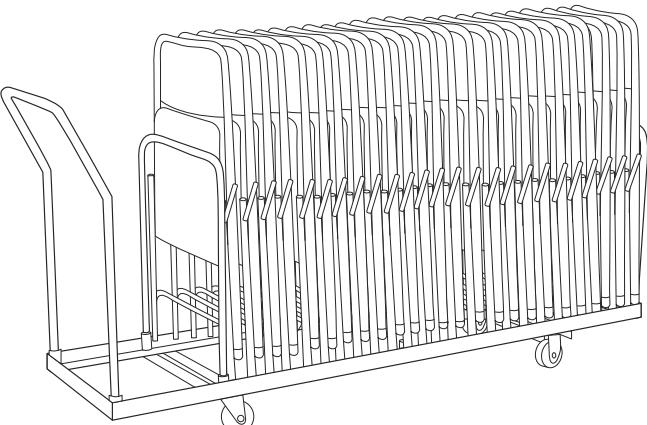

Figure 4
- If more than 14 chairs are stacked, start stacking chairs on right. (See Figure 4)